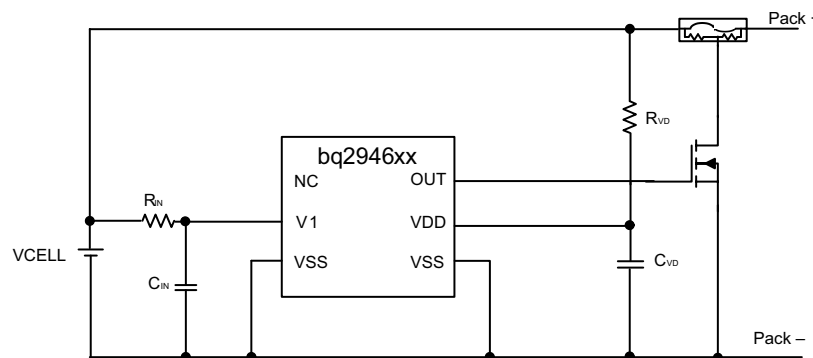

Figure 8. Application Configuration Schematic
Changes to the ranges stated in Table 1 may impact the accuracy of the cell measurements. Figure 8 shows each external component.
2. Follow the application schematic (see Figure 8) to connect the device.